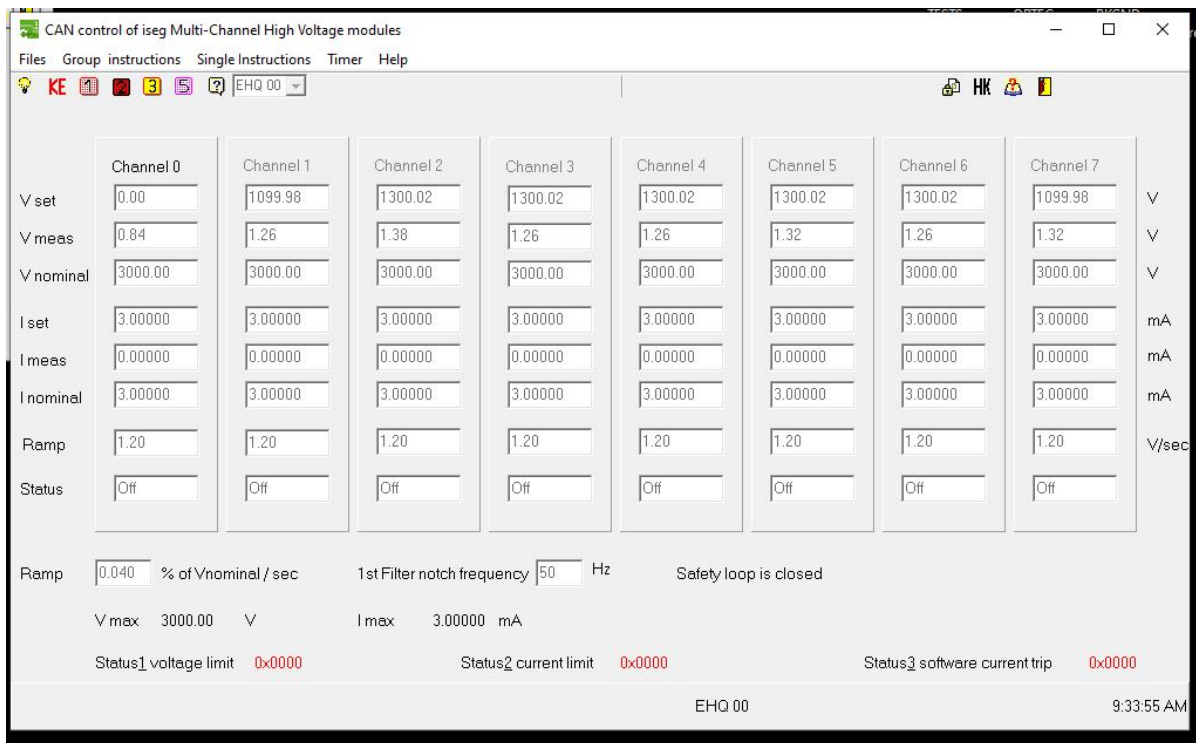

Figure 15a. iSEG Multi-Channel High-Voltage Modules; EHQ00.
7. Click on the **EHQ00** and **EHS01** modules. A window opens for each module (Figures 15a and 15b). Check the following items: